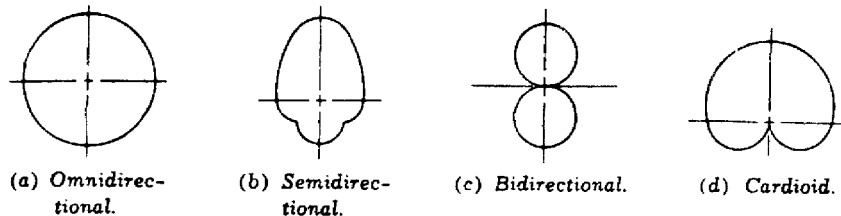
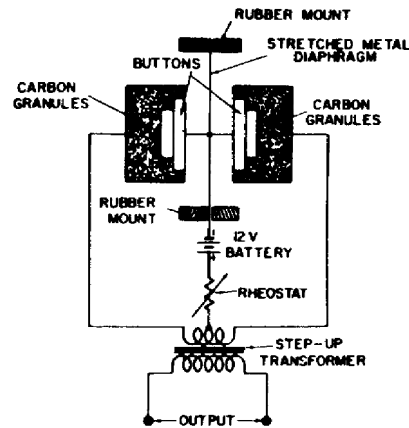

Figure 3-1. Basic microphone field patterns
Figure 3-3. Connections and construction of a double-button carbon microphone
tional patterns of microphones; the term field pattern is interchangeable with the term polar pattern. Basically, there are four types of polar patterns (fig 3-1).
b. The semidirectional pattern obtained with an adjustable field pattern microphone is illustrated in Figure 3-1. As the pattern shows, this type of microphone is directional at high frequencies but nondirectional at low frequencies.
c. The bidirectional pattern obtained with a ribbon microphone is also illustrated by figure 3-1. The microphone is essentially dead to pickup at the sides. This pattern is generally referred to as the figure-eight field pattern.
- (1) The output voltage from a carbon or pressure microphone is proportional to the displacement of the diaphragm.
- (2) Figure 3-1 (1) shows the field pattern is omnidirectional.
- (3) One of the principle disadvantages of the carbon microphone is that it has continuous high frequency hiss caused by the changing resistance between the carbon granules. In addition, the frequency is limited and the distortion is rather high.
- c. The current through the buttons corresponds to each half of the pressure wave at the diaphragm. This action is some what similar to the action of a push-pull amplifier stage. Figure 3-3 shows the circuit connections and construction.
2. Over the years the most commonly used microphone for boom operation and the recording dialogue has been a gradient microphone with a cardioid directional polar pattern, (fig 3-1).